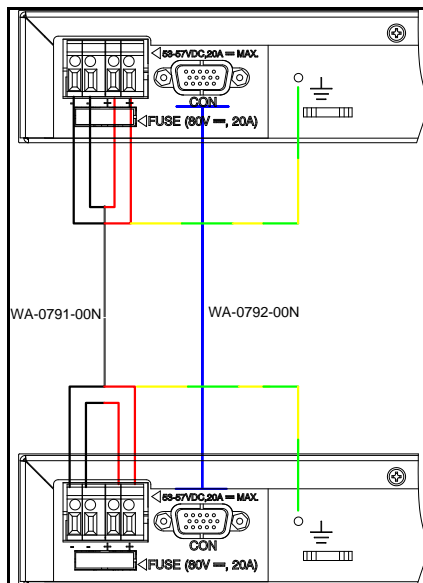

Figure 8-2: PD-95xxG Rear Panel connections
3. Connect DC cable; two red wires (+), two black wires(-), and one yellow/green wire, as shown in Figure 8-2.